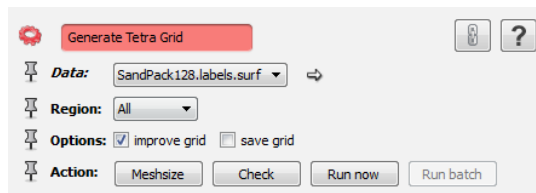

Figure 5.12: *Generate Tetra Grid* module.
- Connect a *Generate Tetra Grid* module to the surface (see Figure 5.12).